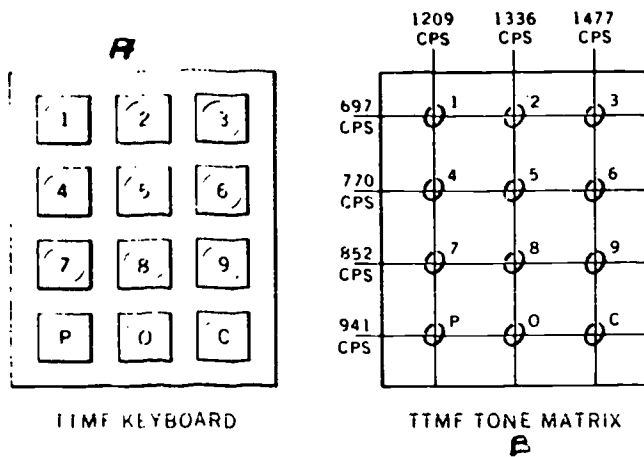

Figure 2-6. Touch-tone keyset key arrangement.
A touch-tone dial keyboard is illustrated in figure 2-6,A. Although this one has 12 pushbuttons, there are subscriber sets with 10 and 16 pushbuttons. The pushbuttons identified as P and C are used for special service signaling. For example, a conference connection between several stations could be made while using the C pushbutton. This type of subscriber set has an oscillator with several tapped terminals. (Another set may have a number of small solid-state oscillators.) Figure 2-6,B, identifies the *tone matrix*. Depression of each touch-tone pushbutton connects two tones to the telephone line. To illustrate, each pushbutton in figure 2-6,B, is represented by a circle and a digit. A depressed 7 pushbutton connects the tones 852 and 1209 to the line. Figure 2-6,B, shows the low frequency (852) at a horizontal line and the high frequency (1209) at a vertical line. With this arrangement, what frequencies are placed on the line when you press the touch-tone pushbutton 0? Yes, the low-frequency 941 and the high-frequency 1336 tones are connected to the line! The calling subscriber will hear
2. Refer to figure 2-6. What frequencies are provided when you depress pushbutton 3?